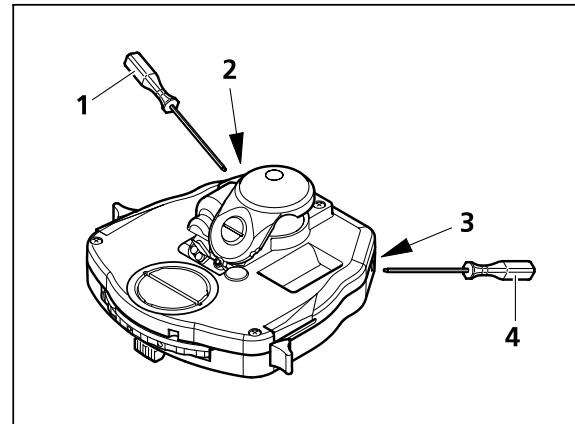
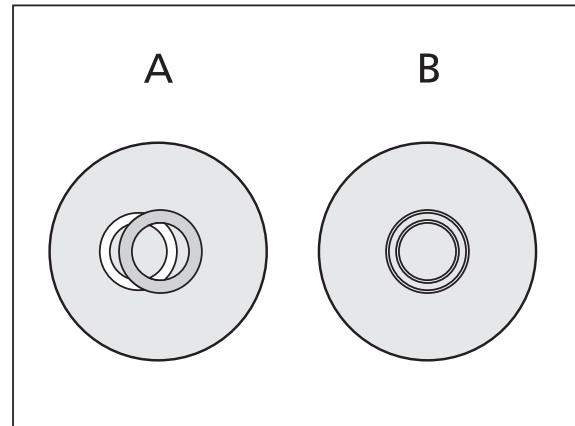

Fig. 4-4 Centering the dark-field diaphragm on the condenser, achromatic-aplanatic 0.9 H D Ph DIC
Fig. 4-5 Centering the annular phase diaphragm (light-colored, in the condenser) and the phase ring (dark-colored, in the object)
(3) Adjusting the transmitted light/dark-field
- If the dark-field diaphragm needs to be centered, please use both Allen screwdrivers SW 1.5 (Fig. 4-4/1 and 4) and adjust the two centering screws (Fig. 4-4/2 and 3) until the objective exit pupil appears consistently dark. Remove the Allen screwdrivers SW 1.5 from the condenser after finishing the centering procedure.
(2) Instrumentation
(3) Adjusting the transmitted light/phase-contrast
- If the overlap is not exact (Fig. 4-5/A), the lighter annular diaphragm must be recentered with the aid of two hexagon screwdrivers SW 1.5 (Fig. 4-4/1 and 4). Adjust the two centering screws (Fig. 4-4/2 and 3) so that you achieve a full overlap with the darker phase ring (Fig. 4-5/B).
A complete phase contrast can only be achieved when the light-colored annular diaphragm (in the condenser) overlaps exactly with the dark-colored phase ring (in the object) in the illumination beam path (Fig. 4-5/B).